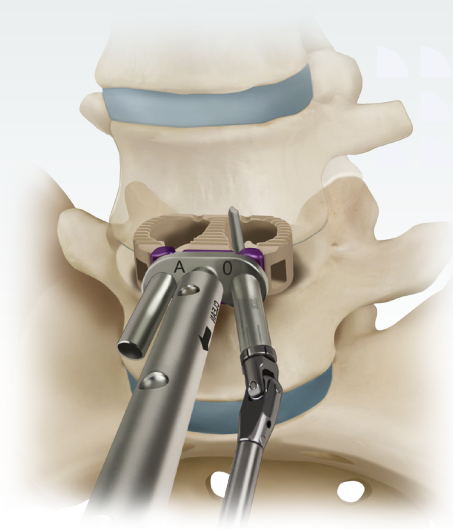

Figure 9:
- Sequentially insert the drill or awl into both barrels of drill guide A until the stop is reached. This provides 18mm of penetration (**Figure 9**).